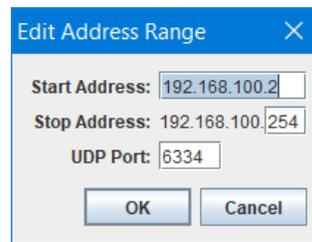

Figure 3-7 Edit Address Range Dialog
- c. Enter range information and click **OK** in the Edit Address Range dialog (**Figure 3-7**). Then click **Done** in the Address Ranges window.